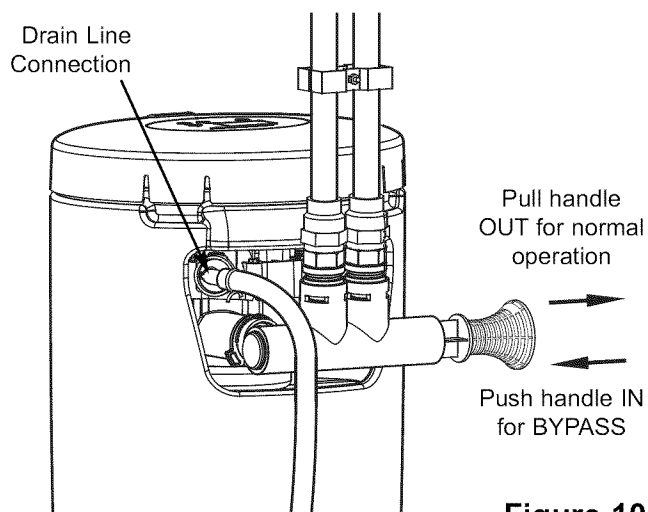

Figure 10
1. Measure, cut to needed length and connect the 3/8" drain line (provided) to the Central Water Whole Home Filtration System valve drain fitting (See Figure 10). Use a hose clamp to hold the hose in place.
1. Make sure the single bypass valve (or 3 valve bypass, if installed) is in the bypass position, with the handle pushed in (See Figure 10).
4. Place the bypass valve(s) in normal operation position, with the handle pulled out (See Figure 10).